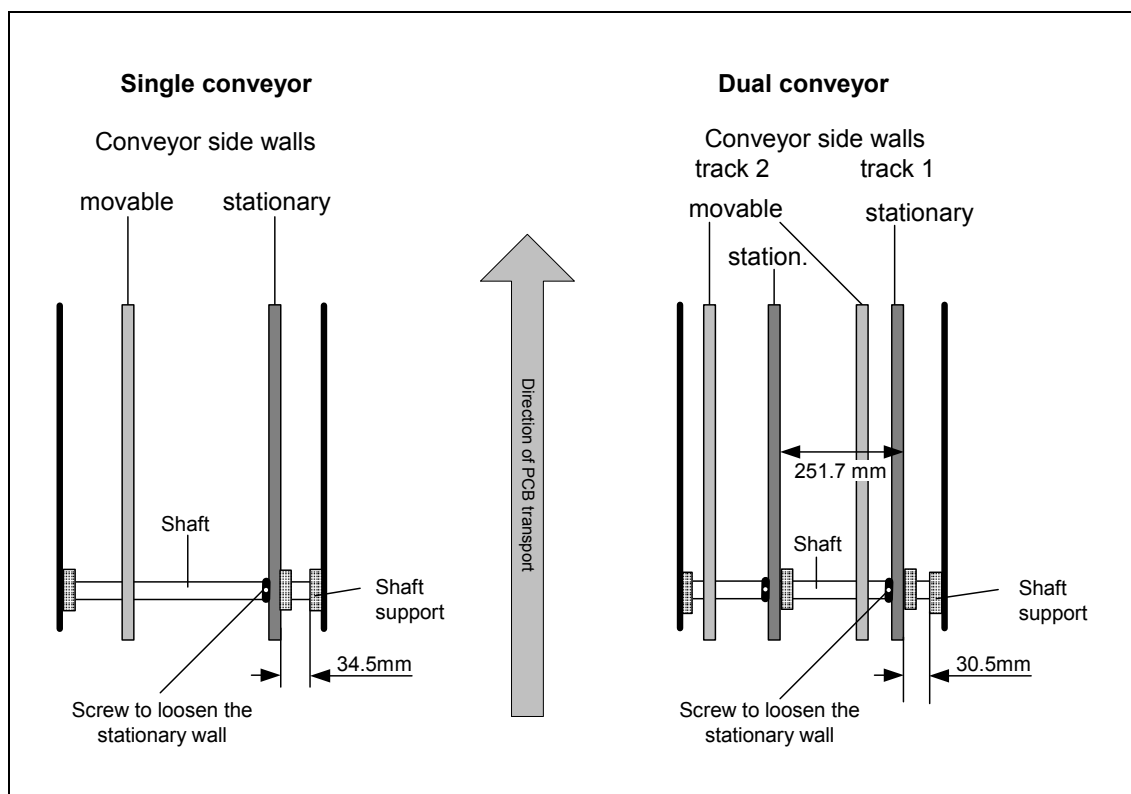

Fig. 6.12.20 Setting the "fixed conveyor side" HS-60, S-27 HM
- Check the measurements in line with Fig. 6.12.20.